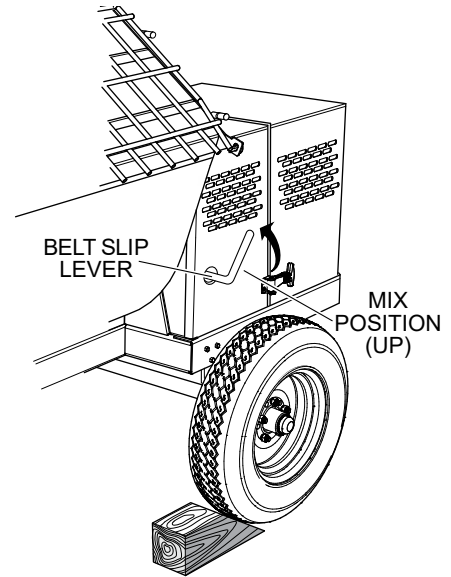

Figure 26. Belt Slip Lever (MIX Position)
3. Place the belt slip lever in the **MIX** (up) position. This will tilt the engine, placing tension on the V-belts and enabling the shaft to rotate. See Figure 26.